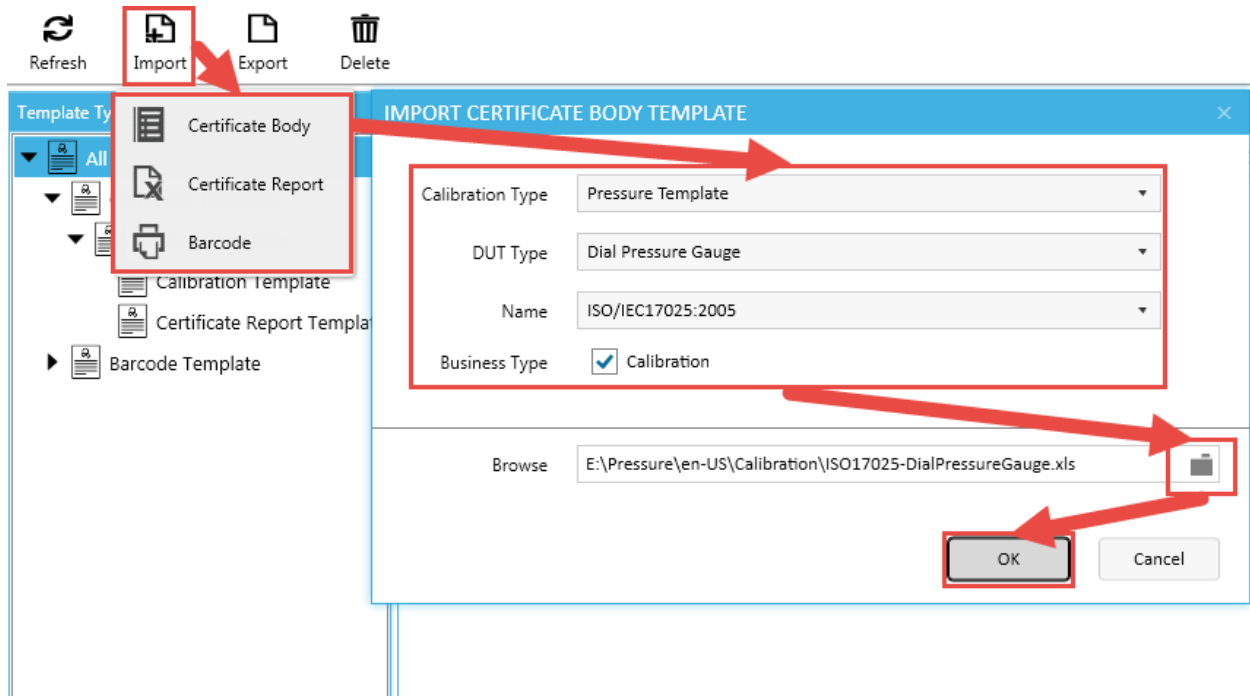

Figure 4
**Step3:** Import your template to ACal Server, as shown in Figure4.